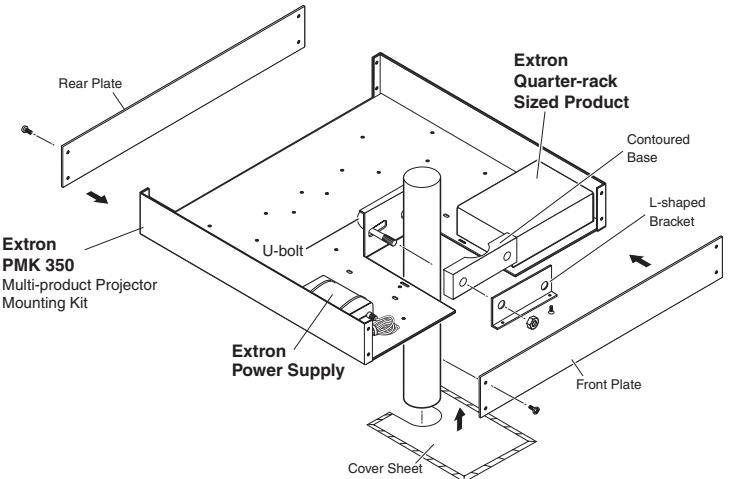

Figure 2-7 — PMK 350 projector mounting a transceiver
1. Remove the front and back plates from the PMK 350 (figure 2-7), using an Extron Tweaker or a #2 Philips screwdriver. Retain the screws to reattach the plates when you are finished.
5. Place the PMK 350 around the projector ceiling mounting pole (figure 2-7, above).